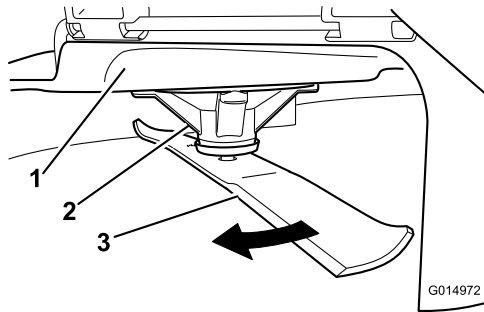

Figure 57
2. While wearing thickly padded gloves, or other adequate hand protection, slowly rotate the blade to be measure into a position that allows effective measurement of the distance between the cutting edge and the level surface the machine is on (Figure 57).